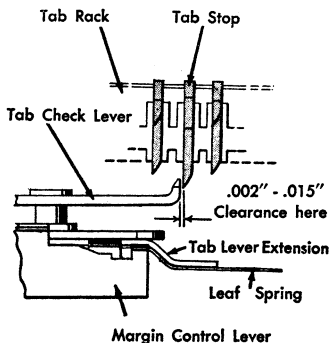

Figure 30. Tab Rack Lateral Adjustment
- a. Position the rack left or right so that there is a clearance between the left-hand face of any set tab stop and the engaging face of the tab check lever of .002" to .015" (Figure 30). Slowly move the tab lever to the rear by hand and observe the amount of clearance between the parts indicated. The continued motion of the tab lever removes the escapement pawl from the rack. The reading has no value unless the carriage is held rigidly during the test.